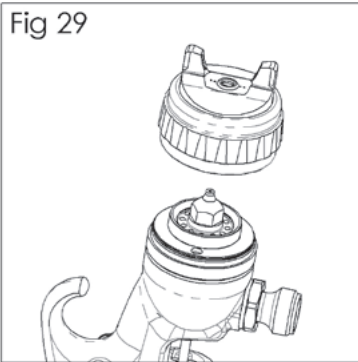

Fig 30
4. Remove fluid nozzle using a 10mm wrench. (See fig 30).
10. Fit fluid nozzle (8), air cap and retaining Ring (6). Torque the fluid nozzle to 18–20 Nm (13–15 ft-lbs). Do not over torque the fluid nozzle. (See figs 30, and 29)
11. Reassemble remaining parts in reverse order – fluid needle (24), needle spring and pad (29), and fluid adjusting knob (28).
12. Trigger gun fully and screw in fluid adjusting knob (28) until it stops. Back it off 1/2 turn and gun will have full needle travel.